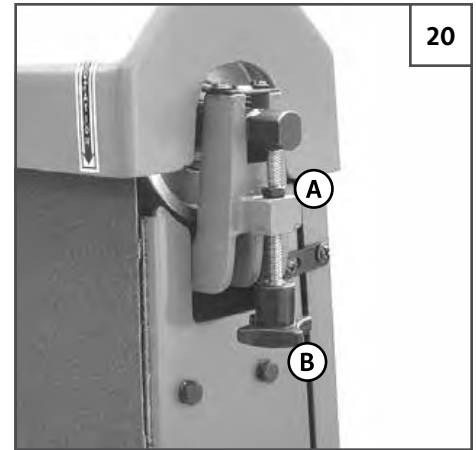

FIGURE 20: ADJUSTING SANDING BELT TRACKING
1. Loosen **LOCK NUT (A)** using a 10 mm wrench. See Figure 20.
2. Slightly turn the **TRACKING ADJUSTMENT KNOB (B)** clockwise to track the belt to the right. Turn it counterclockwise to track the belt to the left.